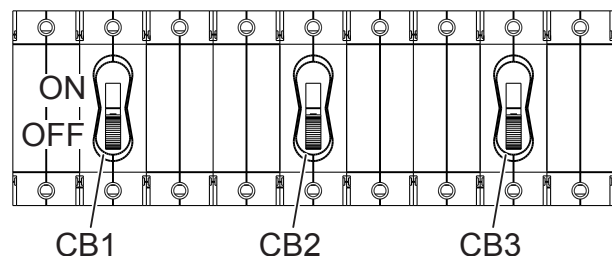

Figure 8. Lamp Circuit Breakers
1. Before turning on the lamps, make sure that main circuit breaker on the generator control panel and the circuit breakers shown in Figure 8 are all in the off position.